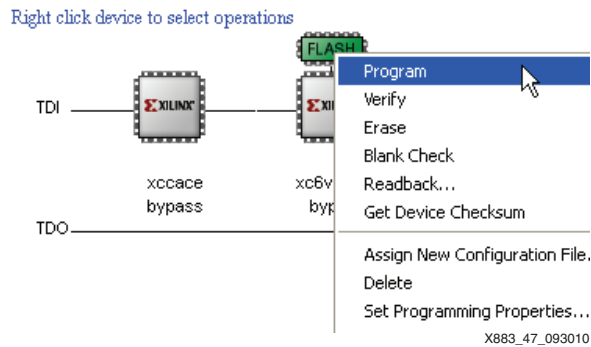

Figure 47: Program the PROM
20. Right-click the green FLASH icon and select **Program** (see Figure 47).